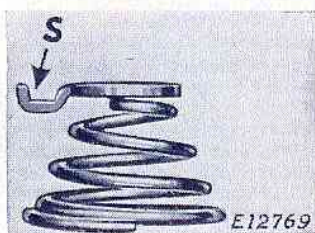

FIG. 22
If the spring and stop washer are in correct position, the extension (S) will clear the first (half) coil of the tension spring as shown in Fig. 22.